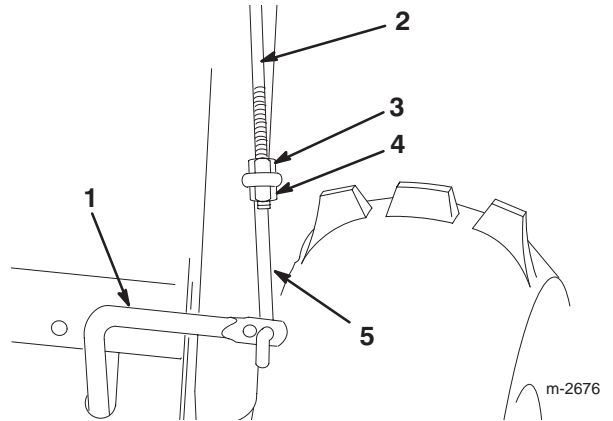

Figure 11
1. Thread a flange nut (flange side down) onto the upper control rod located on the right side of the handle assembly (Fig. 11).
2. Install the lower link through the outer hole in the lower control rod as shown in Figure 11.
3. Insert the upper control rod through the loop in the lower link (Fig. 11).
4. Thread a flange locknut (flange side up) onto the bottom of the upper control rod below the loop in the lower link (Fig. 11).
7. Adjust the flange nut and the flange locknut (Fig. 11), if necessary, to obtain the proper dimension between the top of the handgrip and the bottom of the auger/impeller drive control lever.